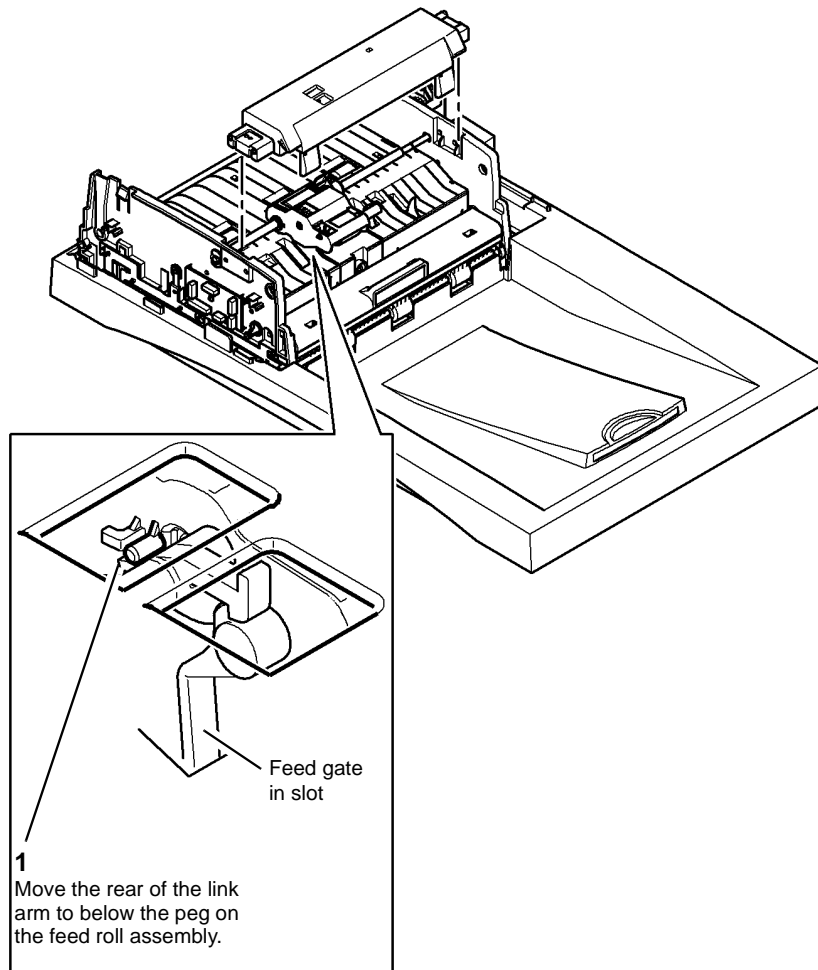

Figure 22 DADF feed gate
3. Ensure that the DADF feed gate and link arm are correctly positioned when the upper feed assembly is installed, Figure 22.